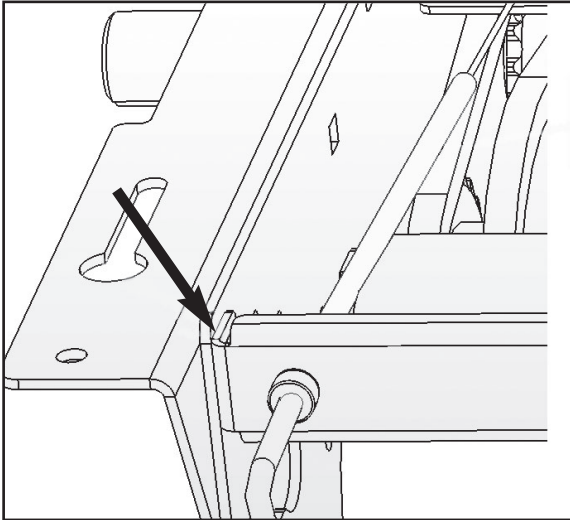

Figure 8
- Use the slot shown to insert the tool (**Figure 8**).
- Make sure the teeth separate from the sprocket (**Figure 8**).